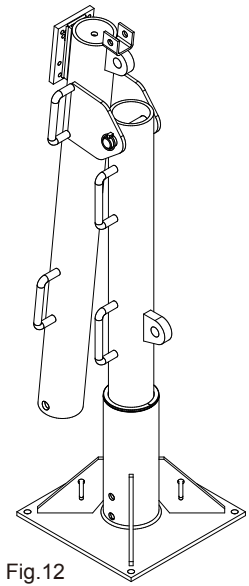

Fig.12
3. Fasten the upper bracket weldment(#10-RC1000, #9-E2000) to the mast weldment(#3) with clevis pins(#9-E1000, #10-E2000) provided fig.12.